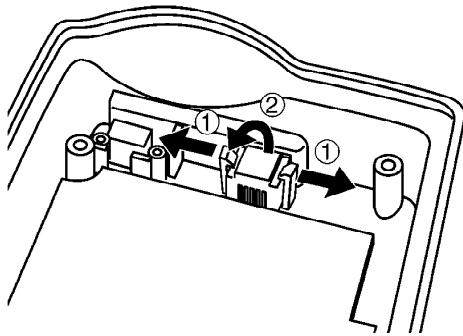

Fig. 1
1. Keep 2 hooks for TEL JACK fixing open in the direction of arrow 1, then pull the top of TEL JACK forward as shown arrow 2 until the hooks click. (Refer to Fig. 1.)